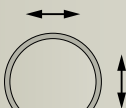

Figure 26
- The greater the care with which the concrete plug is aligned to the longitudinal and transverse axes, the less conspicuous the elements will appear in the overall look (fig. 26).